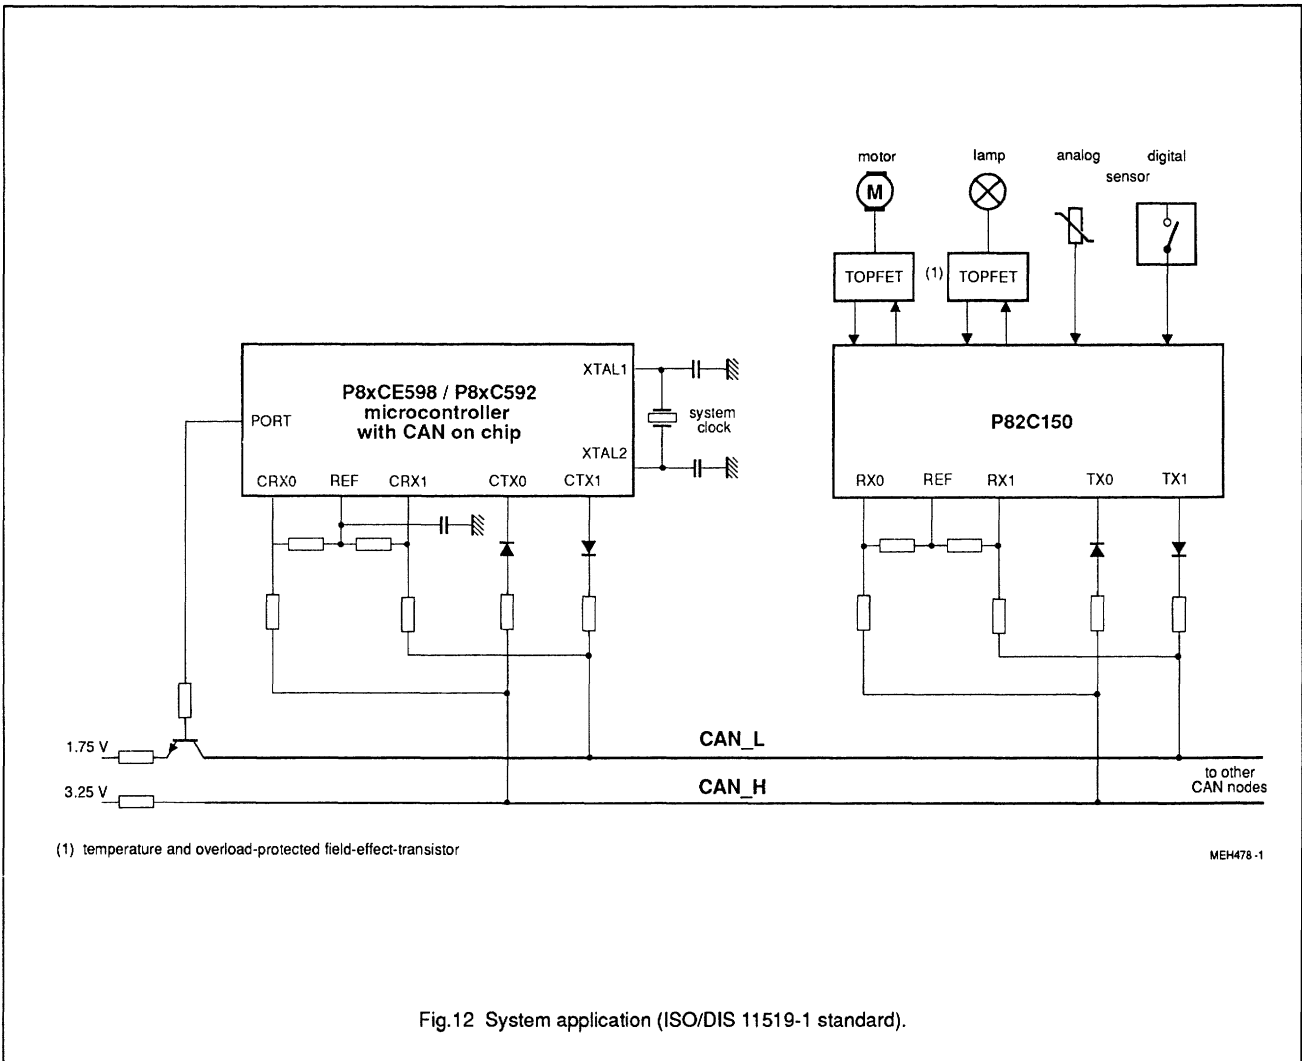

Fig.12 System application (ISO/DIS 11519-1 standard).
**Table 7** Maximum bus line length for CAN-bus systems with P82C150 nodes. The bit timing parameters refer to using a P8xCE598 or P8xC592 microcontroller with on-chip CAN interface as a host node (Fig.12).